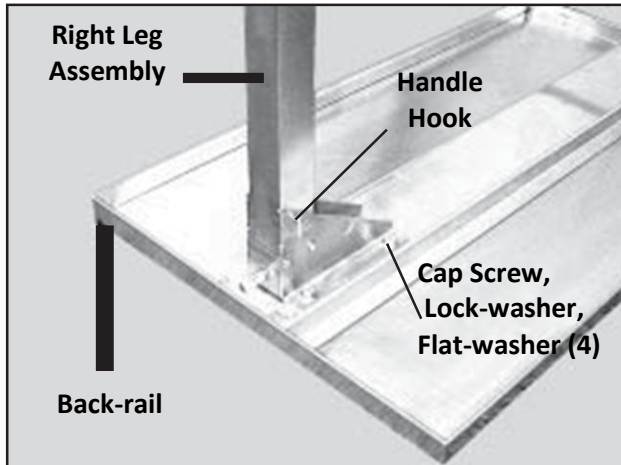

Figure 2-4
4. Fasten the **RIGHT** leg assembly to the top assembly with four cap screws, flat washers, and lock-washers (Figure 2-4). (The lock-washer goes *between* the flat washer and the head of the cap screw.)